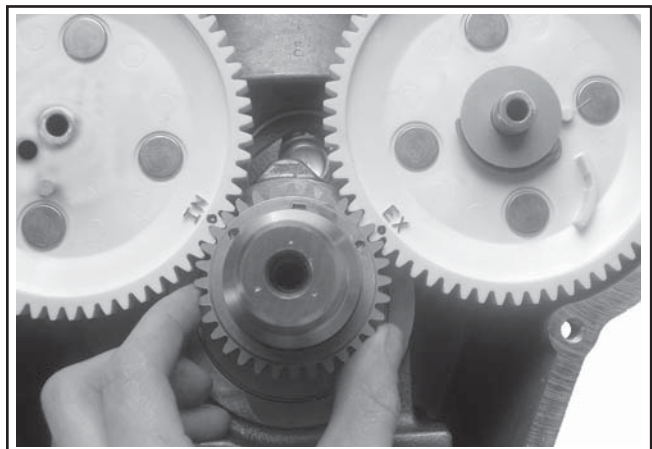

Figure 10-32. Installing Crank Gear.
1. Orient the crankshaft so the key is in the 12 o'clock position. Hold the crank gear with the timing marks visible and slide it onto the crankshaft and key, so the timing marks on the crank gear align with the timing marks on the cam gears. See Figure 10-32.